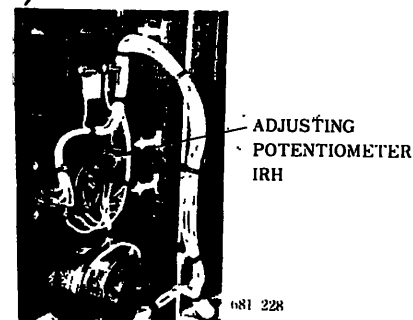

Fig. 13.2 VS Operator Internal IRH
(1) Connect the VS Operator to the inverter with wires correctly.
(2) Disconnect the motor from the inverter.
(3) Input the main power supply by closing the magnetic switch.
(4) Throw the OPERATION switch to RUN, and turn the FREQ SET knob fully clockwise to HIGH.
(5) Measure and check the voltage across inverter signal terminals (6) and (8) with a DC voltmeter for 10V.
(6) If the voltage is not 10V, turn off the power supply once, open the face plate of the VS operator, and hook it to the left hinge of the case as shown in Fig. 13.2.